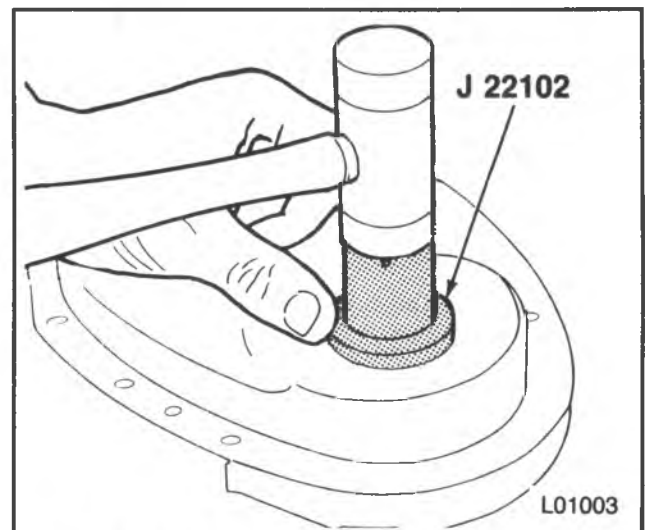

Figure 14 — Installing the Front Crankshaft Seal
Install or Connect (Figures 14, 15, and 16)
1. Front crankshaft seal. Use J 22102 (figure 14). The open end of the seal faces inside the engine. Coat the seal lips with engine oil.